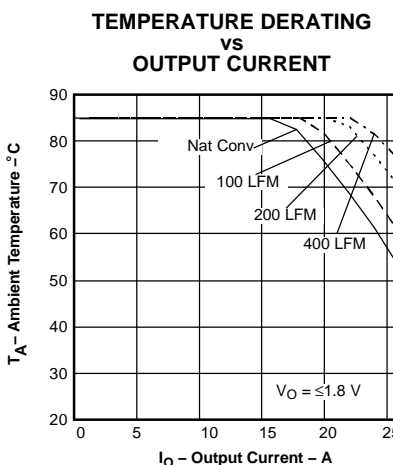

Figure 8.
- (2) SOA curves represent the conditions at which internal components are at or below the manufacturer's maximum operating temperatures. Derating limits apply to modules soldered directly to a 4 in. × 4 in. double-sided PCB with 1 oz. copper. For surface mount products (AS and AZ suffix), multiple vias (plated through holes) are required to add thermal paths around the power pins. Please refer to the mechanical specification for more information. Applies to Figure 8.